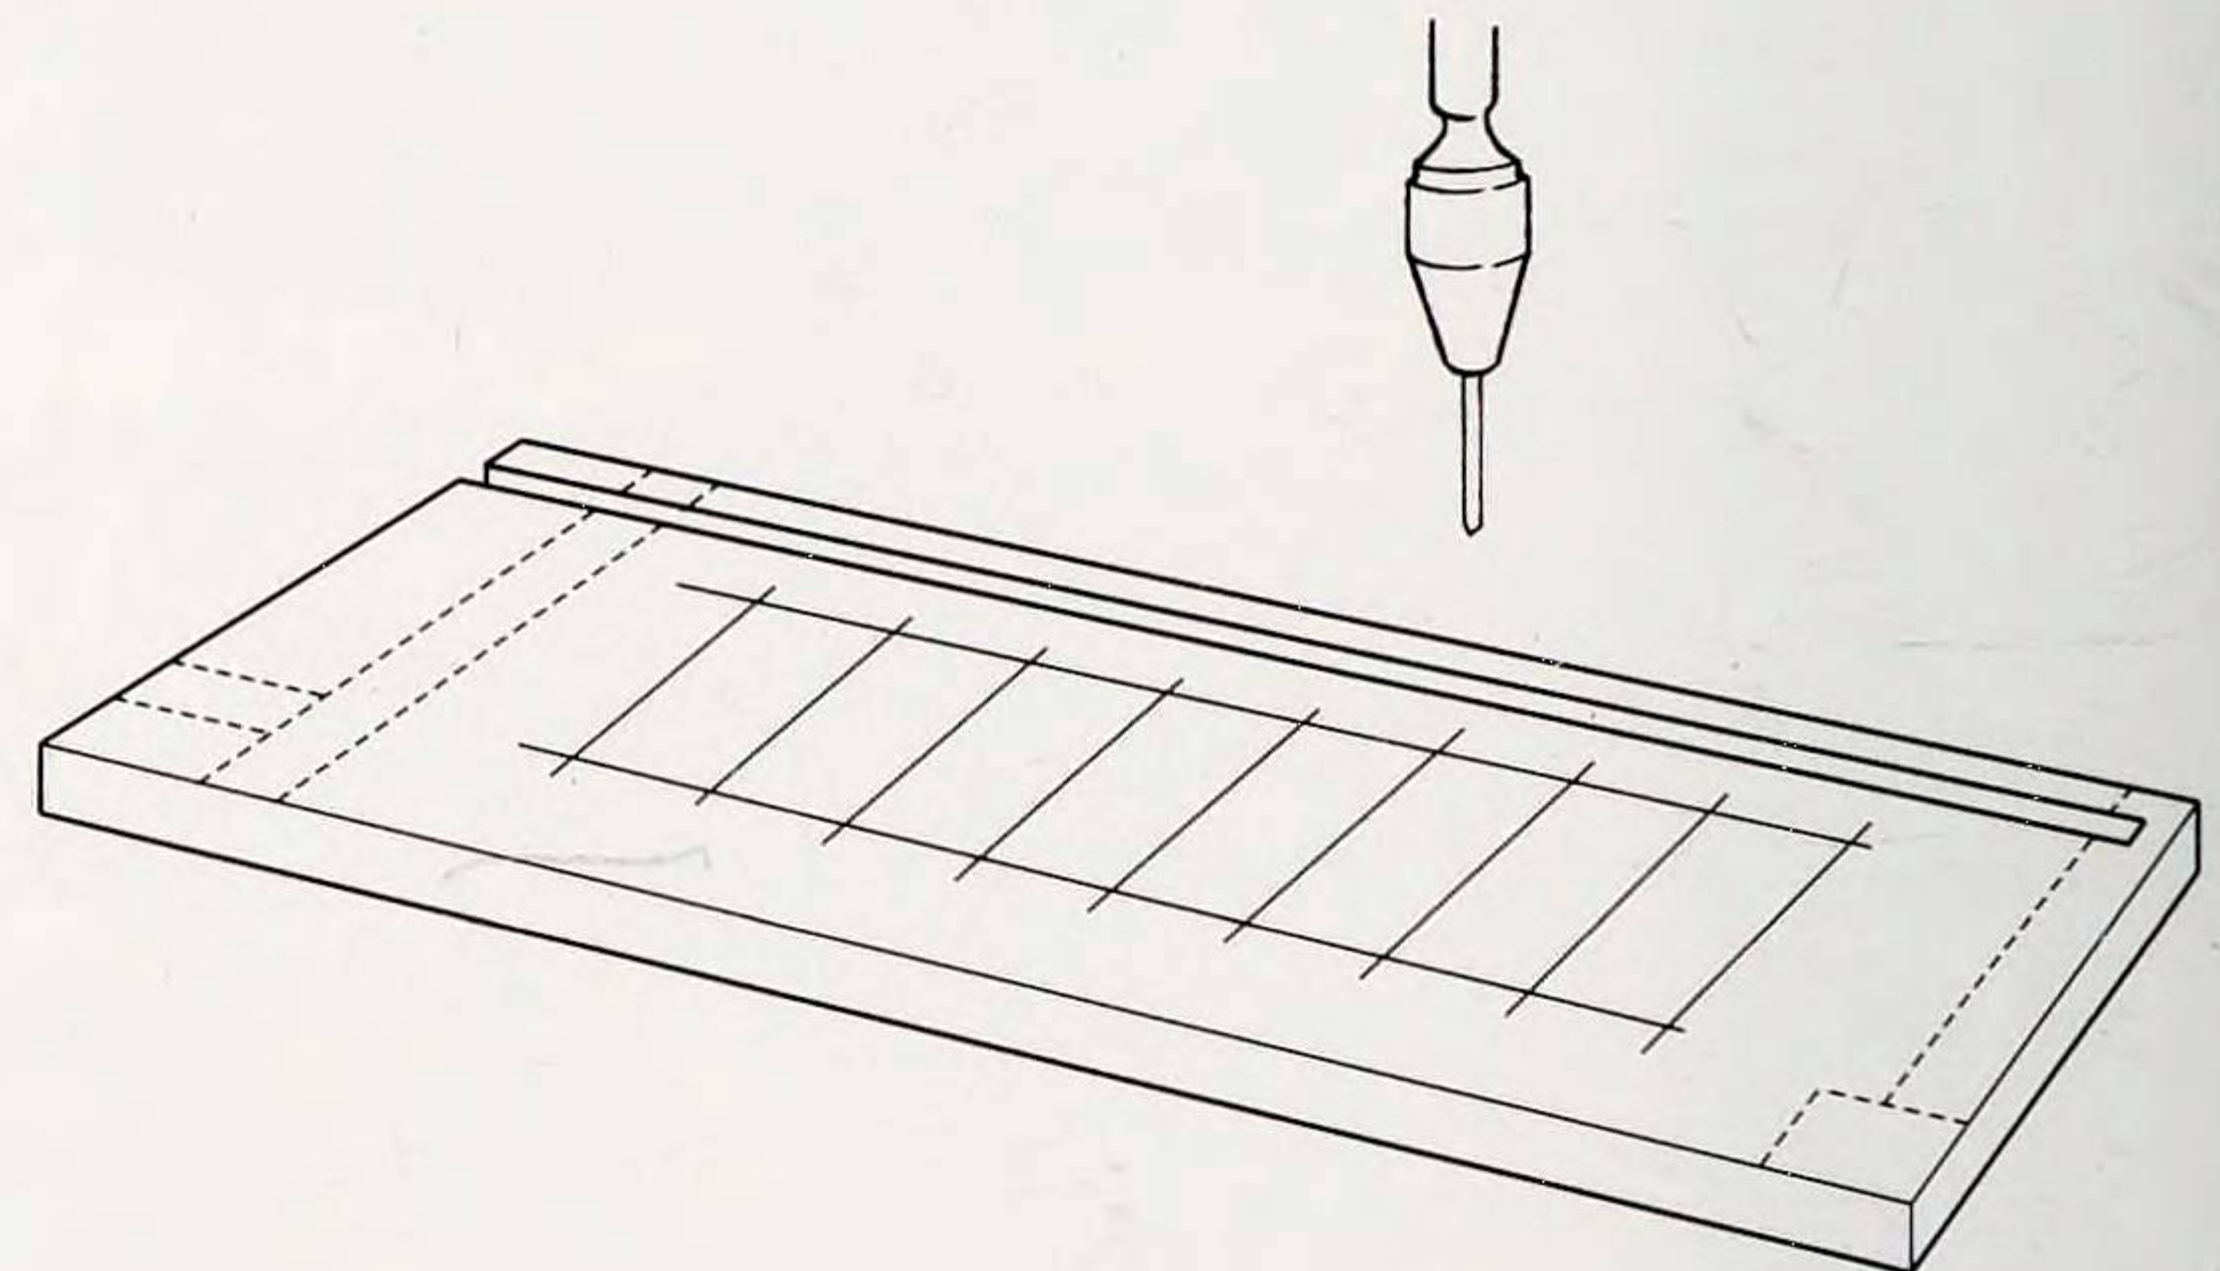

Fig. 4 Marked inside faces of the sides to be drilled for shelf supports
4. Mark out and drill holes on the two sides to accept the shelf supports (Fig. 4).